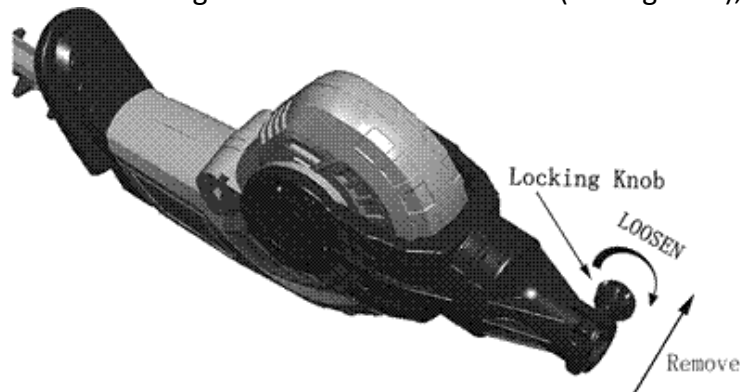

Figure 1
1. Loosen and remove the locking knob from the link handle (see Figure 1);